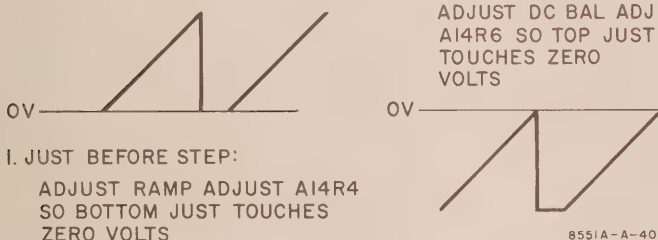

Figure 5-16. Adjustment of Sweep Ramp, Phase-Lock Circuit
p. Set TUNE just counterclockwise of the step and adjust A14R4 RAMP ADJ so bottom of ramp just touches 0 V reference (see Figure 5-16).